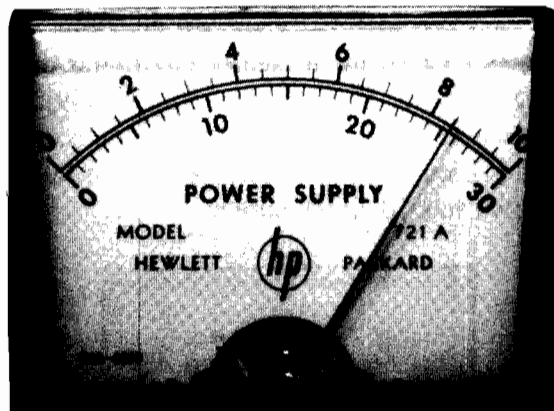

Figure 2–5
3. Usually, meters with more than one range have several scales called *multiple scales*. A meter with multiple scales is illustrated in Figure 2–5. Each scale can represent one or more ranges. In this case, the user must choose the appropriate scale *and* set the decimal place.